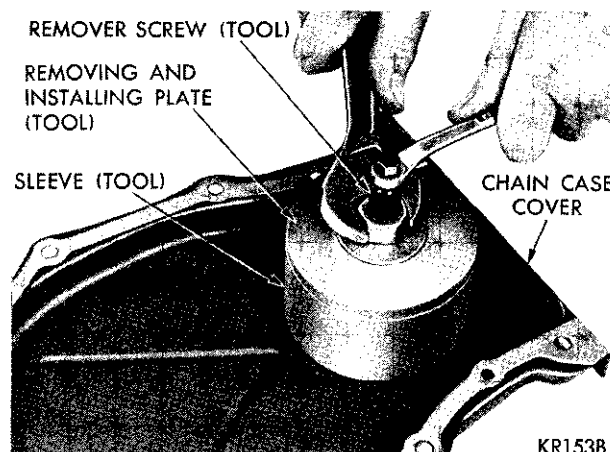
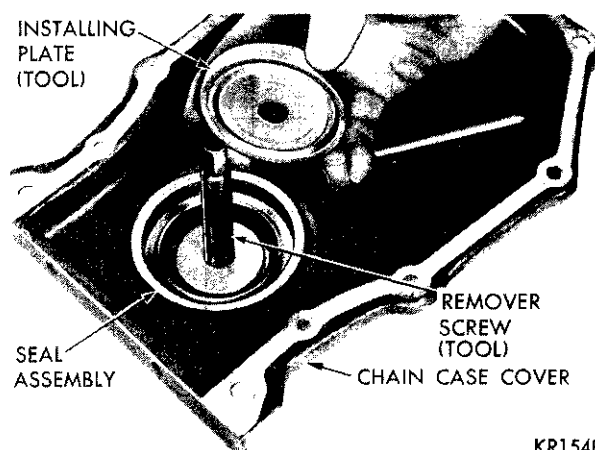

Fig. 24—Removing Oil Seal
Fig. 25—Positioning Installer Plate
(3) Place sleeve over retainer and place removing and installing plate into the sleeve.
(4) Place flat washer and nut on the remover screw. Hold center screw and tighten remover nut to remove the seal (Fig. 24).
(5) Insert remover screw through the removing and installing plate so thin shoulder will be facing up.
(6) Insert remover screw with the plate through seal opening (inside of chain case cover facing up).
(7) Place seal in cover opening, with neoprene down. Place seal installing plate into the new seal, with protective recess toward lip of seal retainer (Fig. 25). **The lip of the neoprene seal must be toward source of oil.**